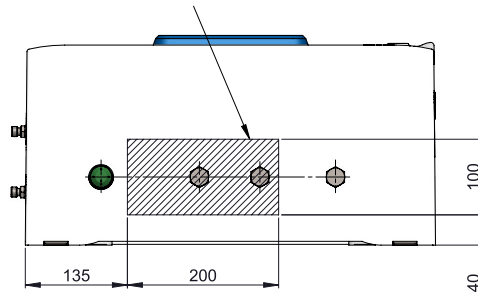

Figure 3.1 - The bottom face view of the MTL GIR6000 enclosure showing area for alternative or additional holes
- An entry for the power cable is provided, additionally two entry holes have been included adjacent to the power cable entry for the installers wiring. Any alternative or additional gland holes made by the installer must be kept within the area indicated on the bottom of the enclosure, please refer to figure 3.1. All holes made by the installer/user must be fitted with either a suitable cable gland or blanking plug. All glands or blanking plugs fitted to the enclosure must be appropriately certified (e.g. ATEX) and have an Ingress Protection (IP) rating of at least IP54, and an operating temperature range of at least -15°C to $+40^{\circ}\text{C}$.